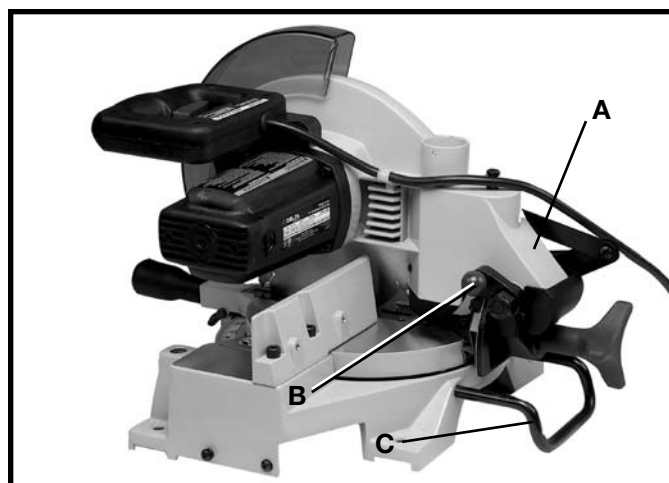

Fig. 18
When transporting the saw, the cuttinghead should always be locked in the down position. This can be accomplished by lowering the cutting arm (A) Fig. 18, and pushing in plunger (B) until other end of plunger (B) engages with hole in cutting arm. **IMPORTANT: NEVER CARRY THE COMPOUND MITER BOX BY THE SWITCH HANDLE. THIS MAY CAUSE MISALIGNMENT. ALWAYS LIFT THE MACHINE BY THE BASE OR CARRYING HANDLE (C) FIG. 18.**